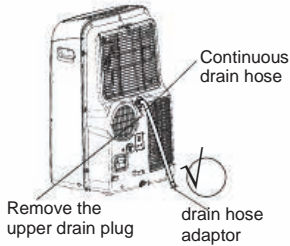

Fig.20a
- During dehumidifying modes, remove the upper drain plug from the back of the unit, install the drain connector(5/8 universal female mender) with 3/4 hose(locally purchased). For the models without drain connector, just attach the drain hose to the hole. Place the open end of the hose adaptor directly over the drain area in your basement floor. Please refer to Fig.20a.
NOTE: Make sure the hose is secure so there are no leaks. Direct the hose toward the drain, making sure that there are no kinks that will stop the water flowing. Place the end of the hose into the drain and make sure the end of the hose is down to let the water flow smoothly. (See Fig.20a,20b,21a). Do never let it up. (See Fig.21b).